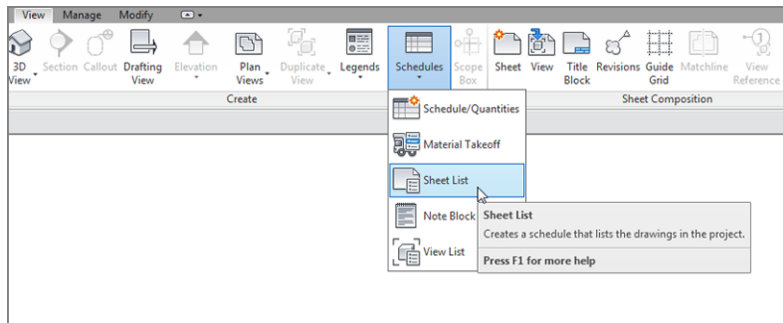

FIGURE 14.21: Selecting Schedules > Sheet List on the View tab
1. On the View tab, click Schedules > Sheet List, as shown in Figure 14.21.